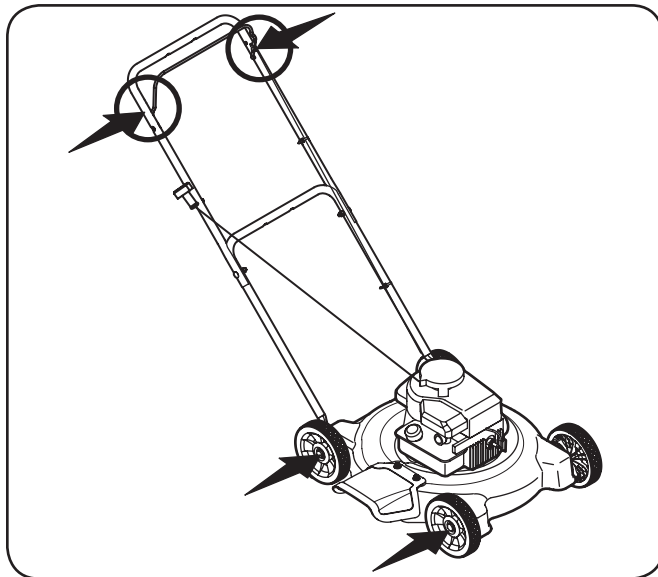

Figure 6-1
1. Lubricate pivot points on the blade control at least once a season with light oil. This control must operate freely in both directions. See Fig. 6-1.
2. Lubricate the wheels at least once a season with light oil (or motor oil). If wheels are removed for any reason, lubricate surface of the axle bolt and inner surface of the wheel with light oil. See Fig. 6-1.